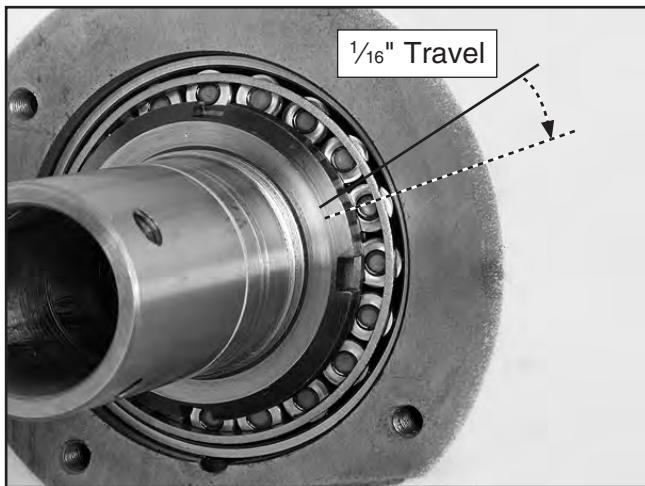

Figure 138. Final spanner nut rotation.
- 12.** Tighten spanner nut an additional $\frac{1}{16}$ " along its circumference. See **Figure 138** for example of this measurement.